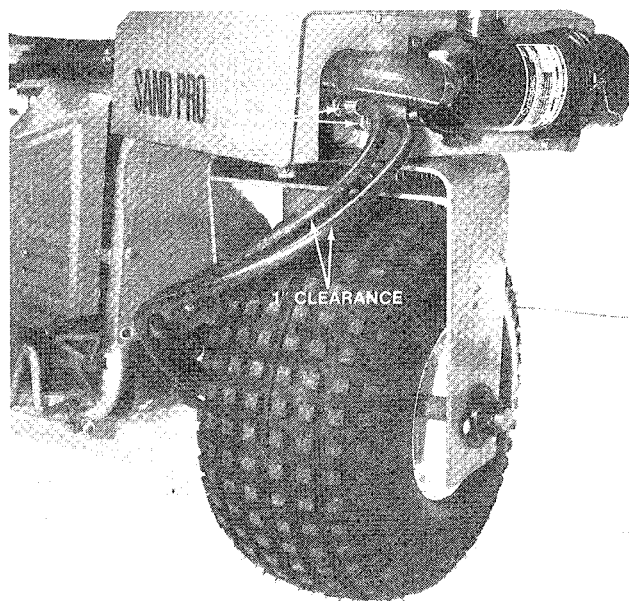

Figure 27
13. Turn the front wheel to full right turn position. There must be approximately 1" (25 mm) clearance between the hoses and the tire. (Too much clearance here may result in a kink in the hoses during a full left turn). To adjust, loosen the lock nut on the elbow, rotate the elbow to reposition the hose, and retighten the lock nut (Fig. 27).